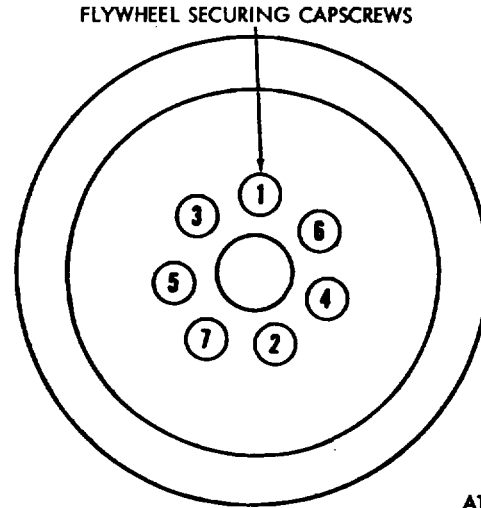

Figure 3-20. Crankshaft adapter tightening sequence
- b. Tighten capscrews in the sequence as shown in figure 3-20.